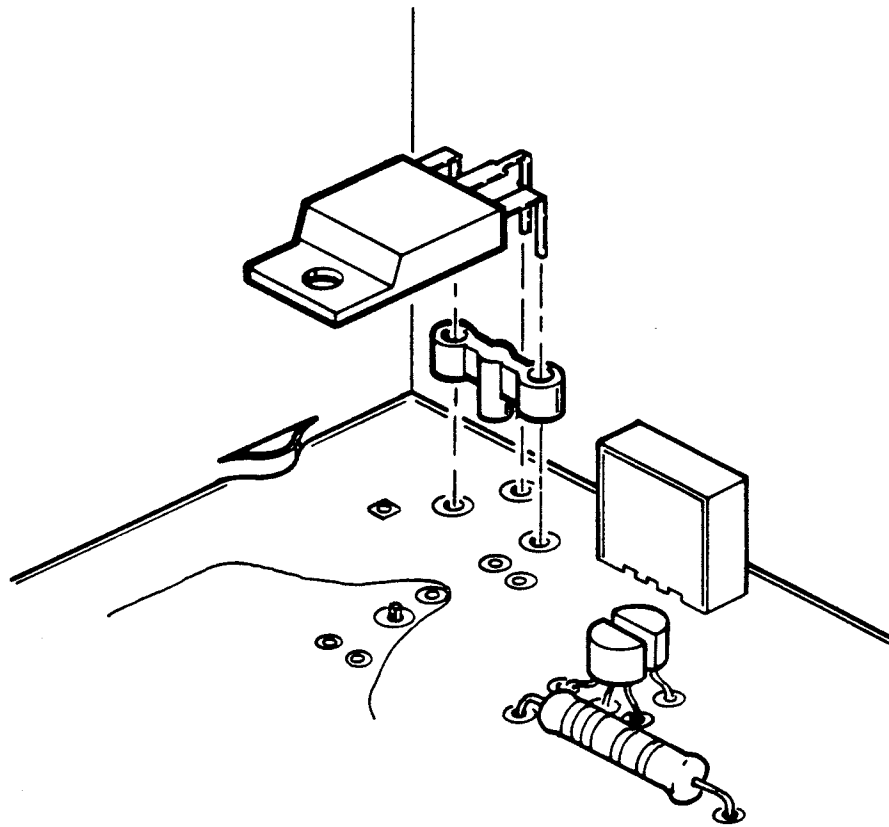

Fig. 1. Location of new diode-resistor network.
- () 16. Replace Q935 with the new SCR, included in this kit, using the included spacer as shown in figure 1.